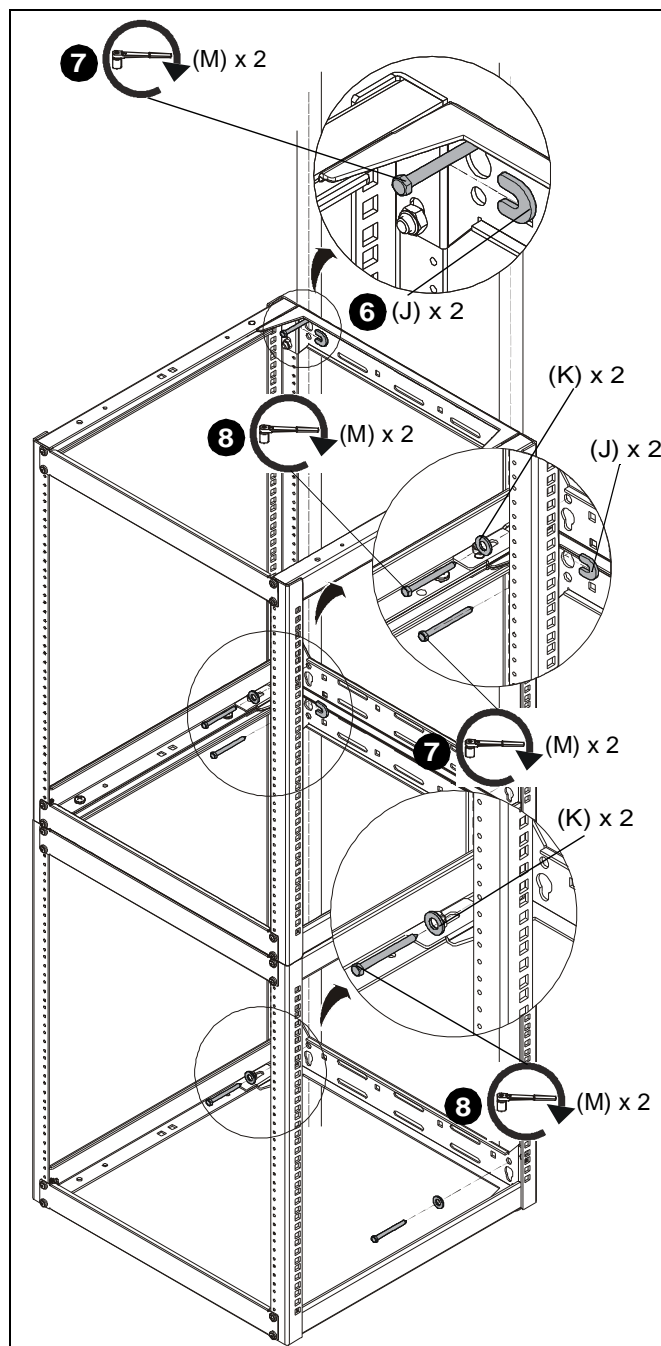

Figure 20
6. Slide two "U" washers (J) onto lag bolts (M). (See Figure 20)
7. Tighten two lag bolts (M) until "U" washers are pulled firmly against the brace. (See Figure 20)
8. Use two 5/16" x 3 1/2" lag bolts (M) and two 3/4" spacers (K) to secure lower part of rack to wall. (See Figure 20)